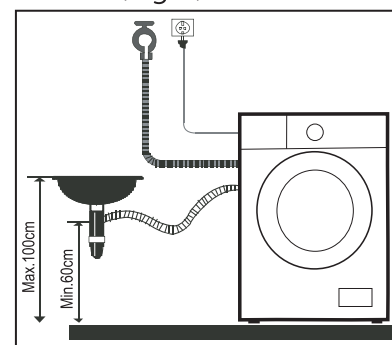

Fig 9
**Important:** The height of the top of the curve in the drain hose **MUST** be between 60 - 100cm from the floor. (Fig 9)